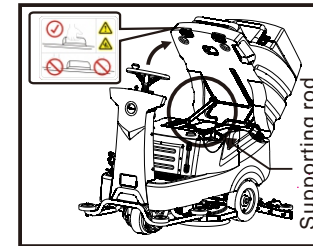

fig. 3
- 1.Empty all the soiled water and turn over the recovery tank as shown below.(fig.3)